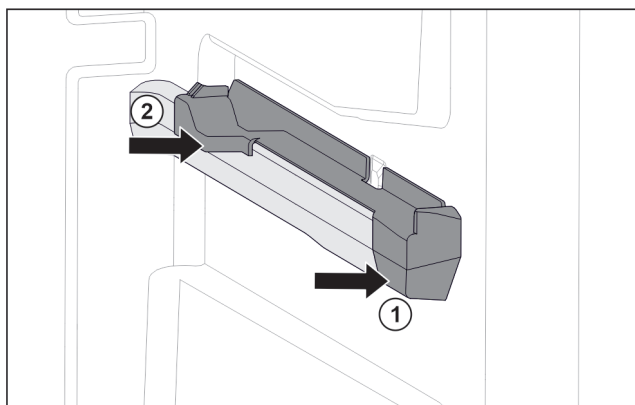

Fig. 118 Attachment on the right moulded rib
- ▶ Position attachment on moulded rib at the front. Fig. 118 (1)
- ▶ Press on attachment at the back. Fig. 118 (2)